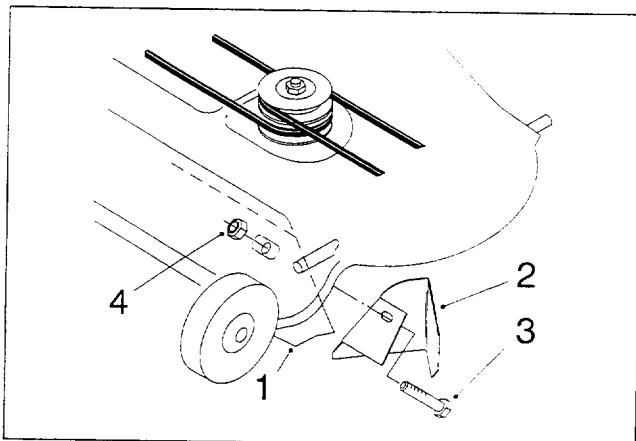

Figure 1
2. Install the grass baffle on the inside of the mower, using a $3/8''$ x $1''$ hex-head bolt and $3/8''$ nylon lock nut in the hole closest to the discharge opening (Fig. 1). Be sure the grass baffle is tight against the underside of the mower.